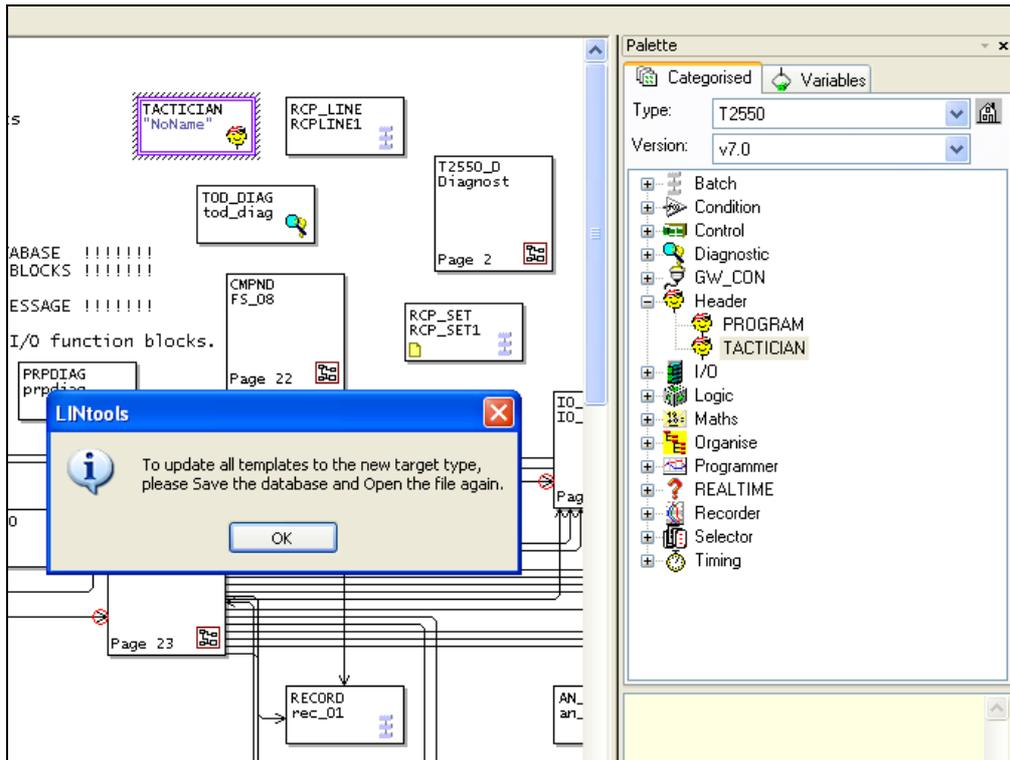

Figure 3.8b Palette, LINTools information box and Highlighted Header Block
- Referring to figure 3.8b below, if not already shown, open the 'Palette' by selecting the 'Palette' item from the LINTools 'View' menu. Select the appropriate Instrument 'Type' from the drop down box, then from the 'Version' drop down box select version 7.0 or greater (V5.0 or greater for Visual Supervisor). From the Palette library, select and drag the appropriate Header Block and place where required. Once placed, a LINTools information box appears, reminding the user to save, close and re-open the database. Click 'OK' on the information box to close it. Using the information as recorded in Step 5, enter the 'TagName' and 'LIN Name' in the new 'Header Block'. Then 'save', 'close' and re-open the database.